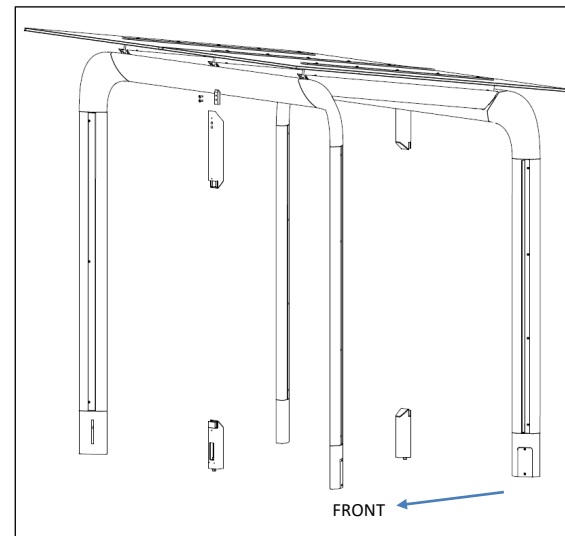

Fig. E3 – glass post orientation
2. Attach upper posts to horizontal beams and check for level – note orientation, see Figs. E3 and E4. Securely tighten. If unit is specified with back glass and left or right front glass, the longer post is installed on the front.